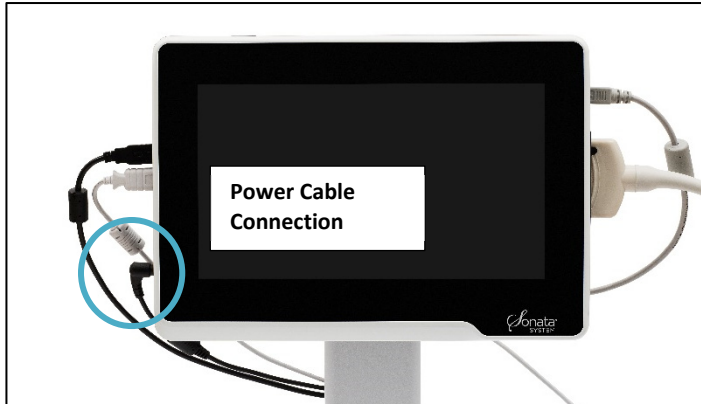

Figure 3-3. Power Cable connection to the SMART Tablet.
- Verify the Power Cable is connected to the SMART Tablet, see Figure 3-3.